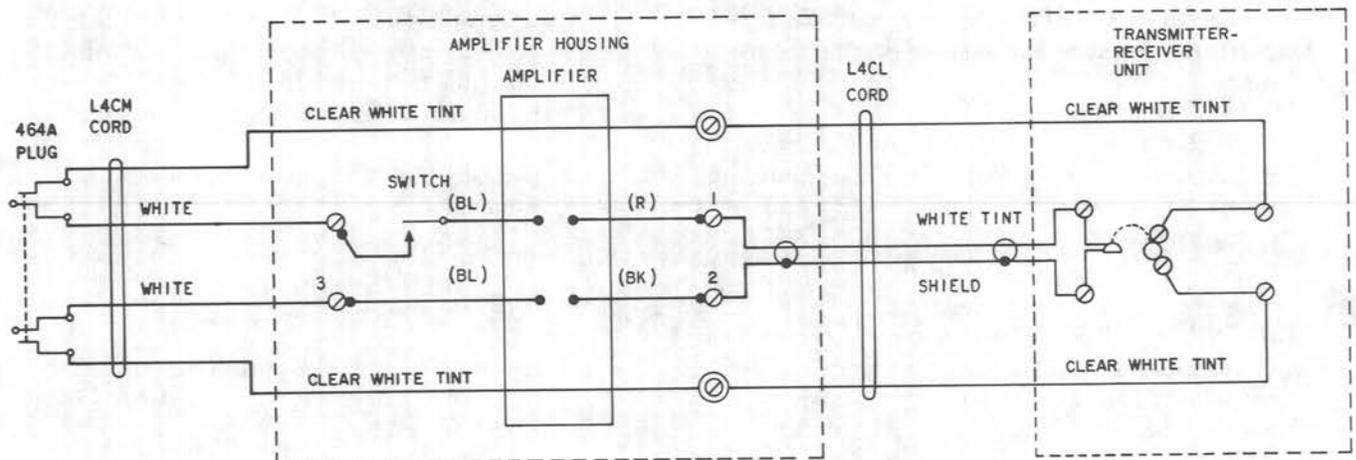

Fig. 9—281A-50 (Mfr Disc.) Amplifier Connecting Diagram
- (1) With the 3-inch C screwdriver, remove the housing screws, lift off cover assembly, and remove spring clip.
- (2) With the KS-6854 screwdriver, remove the terminal screws and lift the L4CL cord and the L4CM or the L4CS cord from the amplifier.
- (3) Connect the cords in the new amplifier as shown in Fig. 9 or 10.
- (4) Dress leads as originally positioned.
- (5) Reassemble parts in reverse order of removal.
- (2) With the KS-6854 screwdriver, remove the terminal and mounting screws and lift the switch out.
- (3) Position new switch in amplifier, replace mounting screws, and connect leads as shown in Fig. 9 or 10.
- (5) Reassemble in reverse order of removal.
- (2) Note the dress of the leads.
- (3) With the KS-6854 screwdriver, remove the terminal screws holding the printed wiring board terminals and remove the board.
- (4) Position the new printed wiring board and reassemble in reverse order of removal, connecting the terminal leads as shown in Fig. 9 or 10.
- (5) Dress the leads as originally positioned.
- (1) Remove the old cord from the 464A-50 plug as covered in paragraph 4.06.
- (2) Position new cord and reassemble the parts in the reverse order of removal.
- (3) At the 281A-50 (Mfr Disc.) or 281B-50 amplifier, disconnect the old cord as covered in paragraph 4.11.
- (4) Position new cord in amplifier and connect terminals as shown in Fig. 9 or 10.
- (5) Reassemble the parts in reverse order of removal.
- (1) Disconnect the old cord from the 281A-50 (Mfr Disc.) or 281B-50 amplifier as covered in paragraph 4.11.
- (2) Position the new cord in amplifier and connect terminals as shown in Fig. 9 or 10.
- (3) Reassemble the parts in reverse order of removal.
- (1) At the transmitter-receiver unit, unscrew the cap from the housing assembly and remove wave washer and ring.
- (2) With the KS-6854 screwdriver, remove the screws holding the cord terminals, remove cord retainer and cord.
- (3) Position new cord in housing assembly, replace cord retainer, and connect terminals as shown in Fig. 9 or 10.
- (4) Replace ring, wave washer, and cap.
- (5) At the 281A-50 (Mfr Disc.) or 281B-50 amplifier, remove the housing screws using the 3-inch C screwdriver, lift off cover assembly, and remove spring clip.
- (6) With the KS-6854 screwdriver, remove the terminal screws and lift the L4CL cord from the amplifier.
- (7) Connect the new L4CL cord in the amplifier as shown in Fig. 9 or 10.
- (8) Dress leads as originally positioned.
- (9) Assemble parts in reverse order of removal.